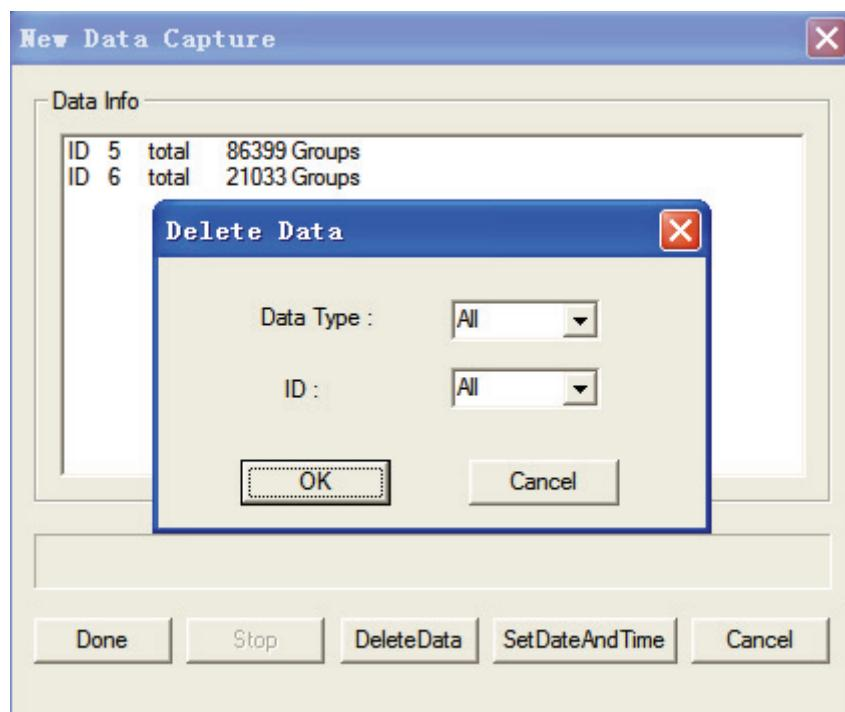
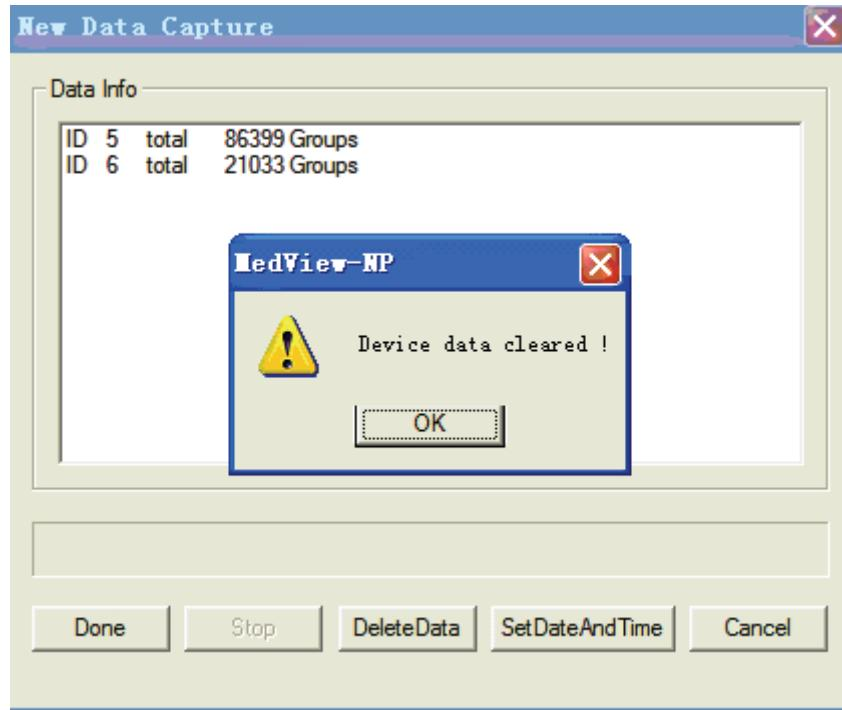

Figure 3-7
Figure 3-8 Click “OK” button
- (1) **Stop:** During data transmission, click “Stop” button, the data transmission will stop.
- (2) **Delete Data:** Click “DeleteData”, the following figure will appear, as shown in Figure 3-7. Select the “Data Type” and “ID” from their drop-down lists, and then click the “ok” button to confirm. The figure 3-8 will appear.